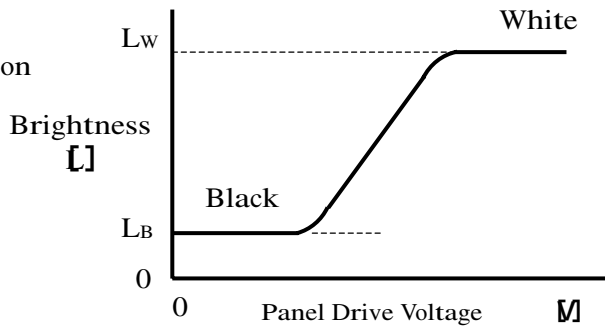

Figure 9-4 Voltage-Brightness Characteristics
Determined by Formula (1) based on Figure 9-4 Voltage-Brightness characteristics.